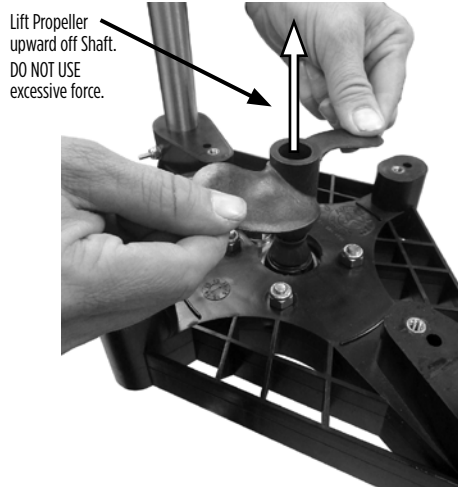

Figure 5
- c) Remove the propeller from shaft by pulling in an upward motion as the arrow shows. Do not apply excessive force or damage may occur (Figure 5).